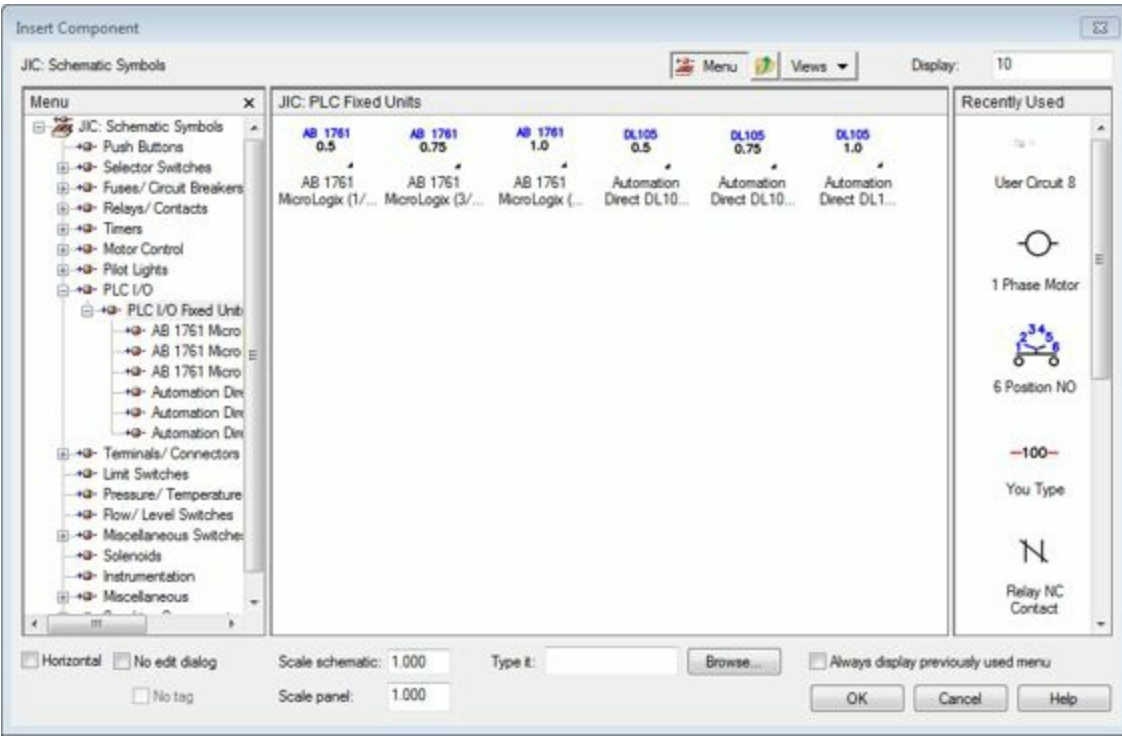

Figure-6. Insert Component dialog box
- Click on the **Insert PLC (Full Units)** tool from the **Insert PLCs** drop-down. The **Insert Component** dialog box will be displayed with the PLC components; refer to Figure-6.